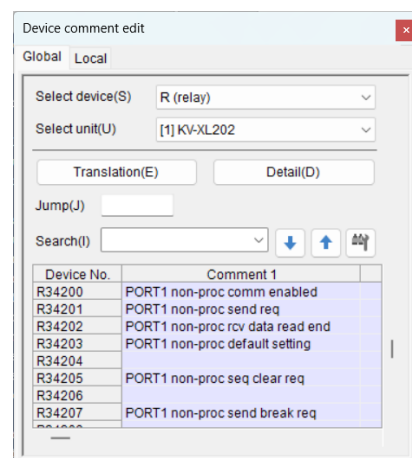

Fig 8 Device Comment
- ① Click on [View] -> [Device comment edit window].
- ② Device comment edit: Click on [Detail].
- ③ Device comment edit: Click on [Register unit device].
- ④ Register unit device: Select KV-8000 and KV-XL202.
- ⑤ Register unit device: Click on [Reg].
- ⑥ Device comment edit: Verify that the unit device is registered. And exit. (Fig 8)